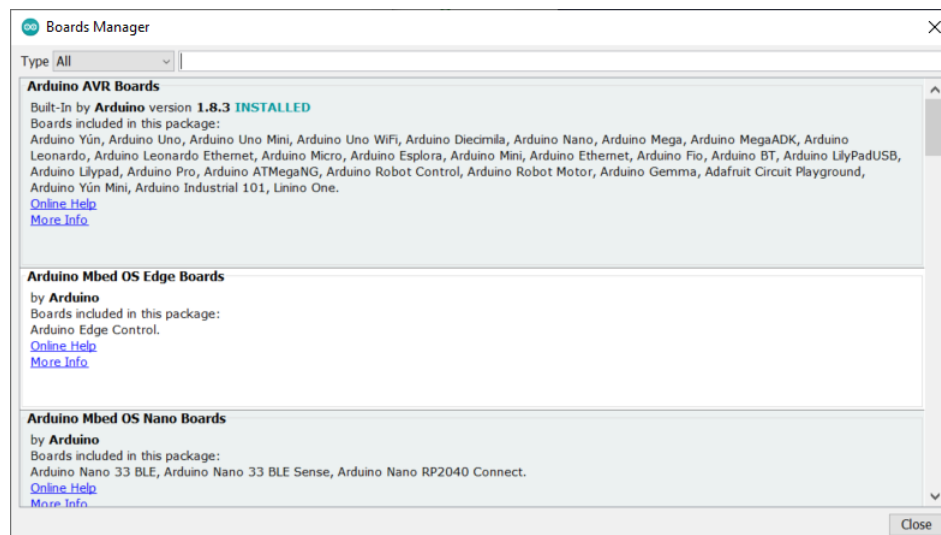

Figure 4.2: This what the Boards Manager loads up to.
- (b) It should load as shown in Figure 4.2.